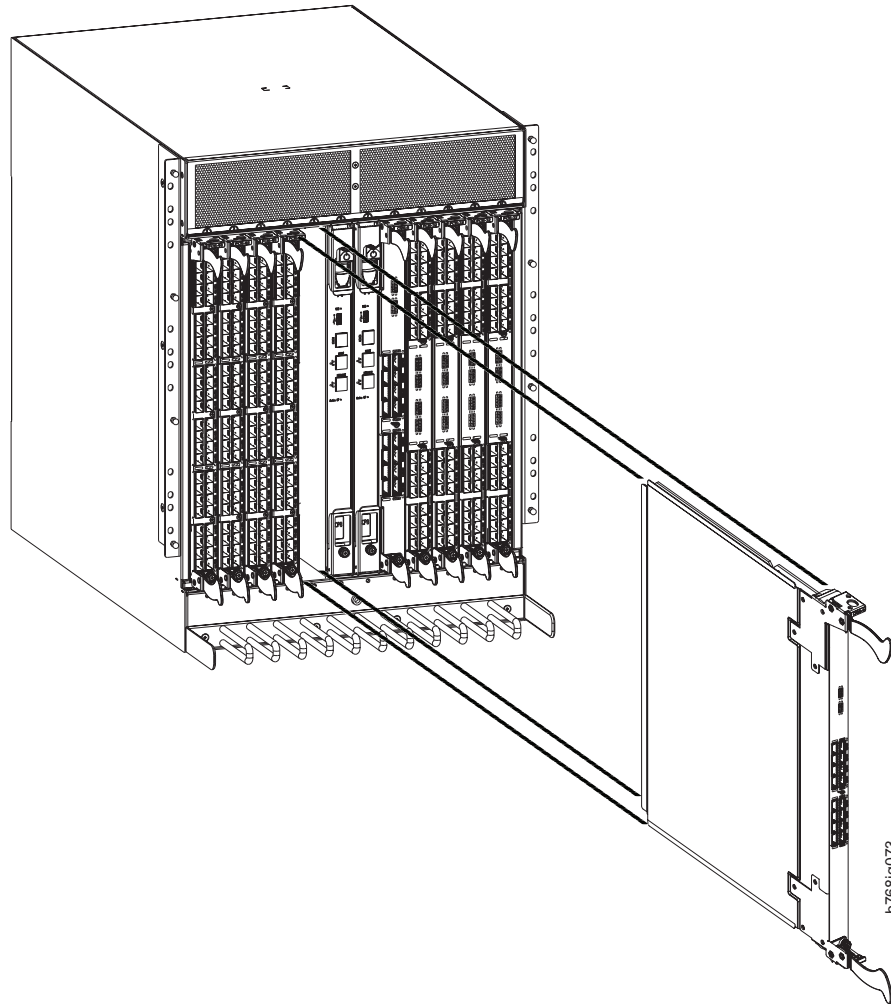

Figure 32. Removing the core switch blade
This section describes how to remove and install a core switch blade. Each SAN768B-2 has two core switch blades: one in slot 5 and one in slot 8. See Figure 32 on page 97.
4. Open the ejectors by rotating them toward the center of the blade face. Pull the blade out of the chassis using the ejectors. (see Figure 32 on page 97).